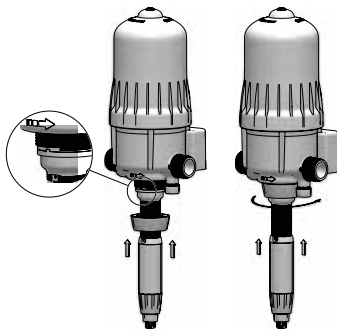

Fig. 22
- Insert the dosing body into the pump body taking care to align the centring pins (Fig. 22). If necessary, to see the pins better, unscrew the dosing adjustment sleeve as far as the middle of its travel.